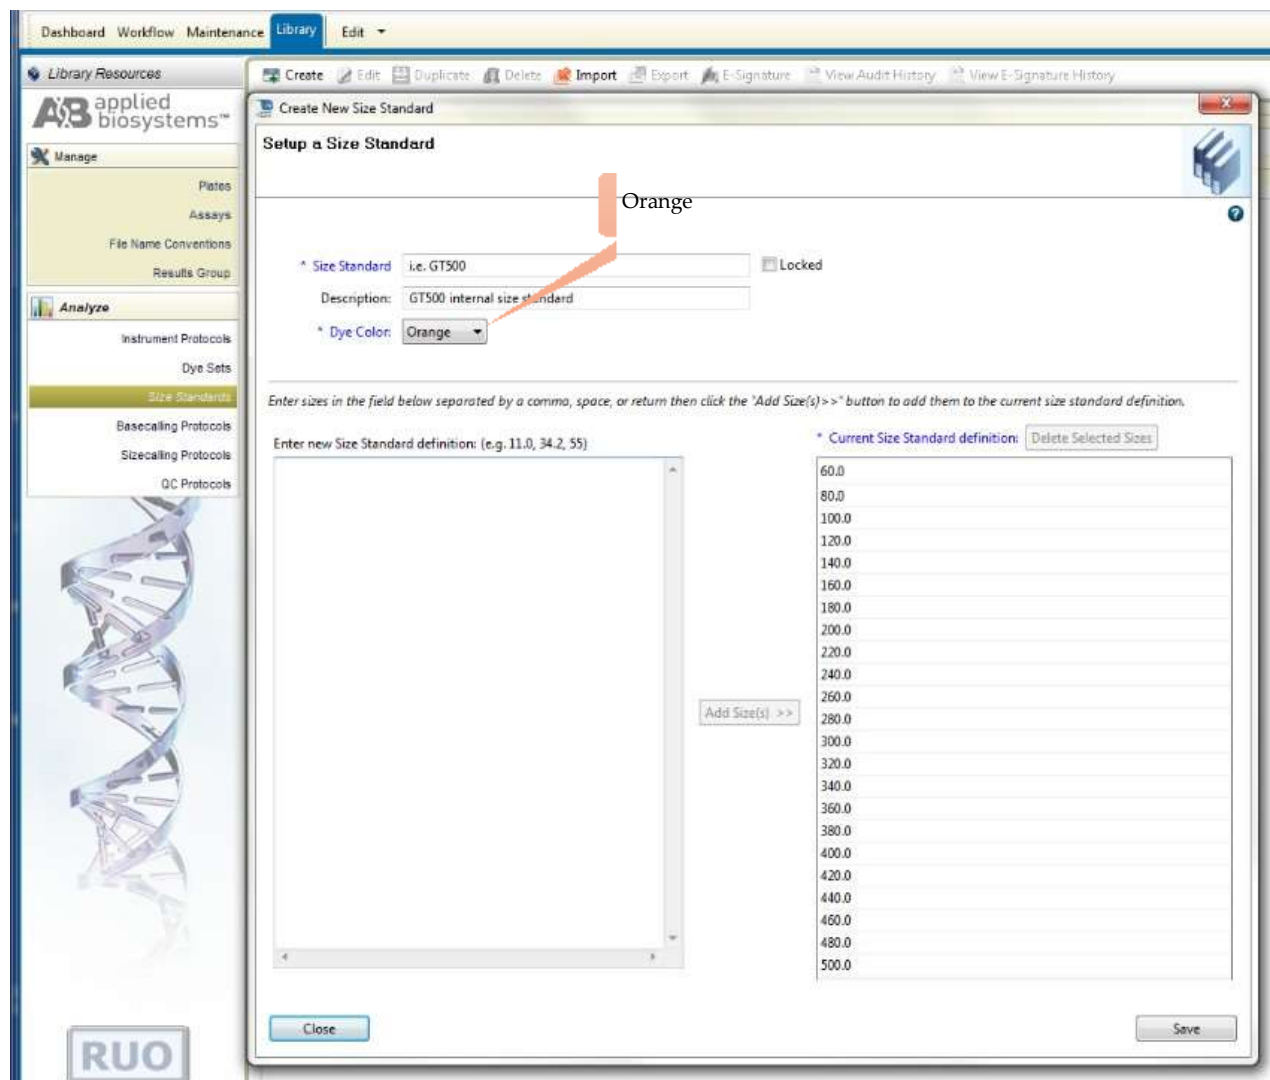

Figure 6. Screenshot for the “Create New Size Standard” window on Applied Biosystems 3500 Data Collection software.
- c) Select “Create” (Figure 6)
Users can select settings as shown in the Figure 6 or alternatively may define these settings based on internal validation condition for GT YDetector 29 on the Applied Biosystems® 3500/3500xL Genetic Analyzer.